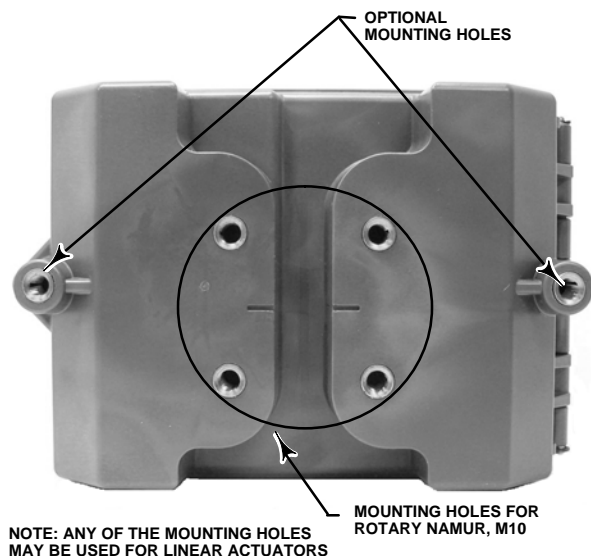

Figure 5. Housing and Mounting for Linear and Rotary Actuators
6. Mount the wireless positioner monitor to the mounting bracket, using the mounting bolts. Any of the mounting holes may be used for linear actuators. See figure 5.